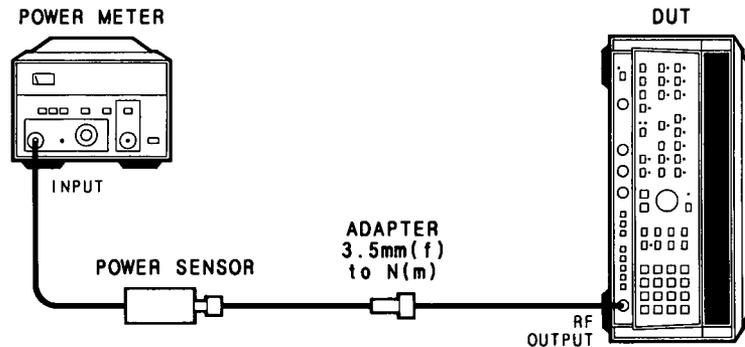

Figure 5-48. ALC Adjustment Test Setup
15. Connect the equipment as shown in Figure 5-48. Calibrate and zero the power meter. Allow one hour warmup time. Connect the power sensor to the DUT's RF output. Press [INSTR PRESET] on the DUT. Press [CW] and enter [4] [.] [5] [GHz]. Press the [RF] key to turn the RF OFF and zero the power meter. To ensure that the power meter is properly zeroed, select "WATT" mode, and press ZERO until the power meter indicates ≤ 0.02 on the most sensitive range. Press [RF] to turn the RF ON. Press [PEAK] to turn peaking on. Press [SHIFT] [PWR SWP] to decouple the RF attenuator and ALC. Enter [0] [dBm]. If the display does not indicate ATTN=0 dB, press STEP keys as necessary to select 0 dB attenuation.